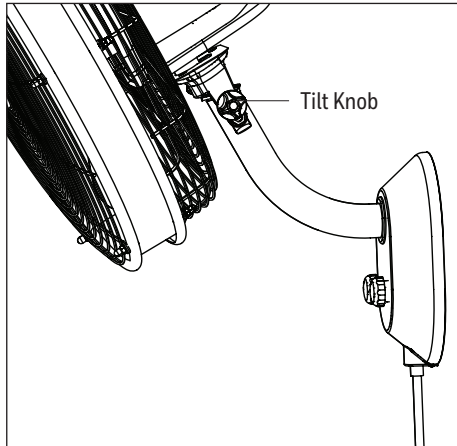

Figure 2.2
2. Use the tilt knob on side of fan to adjust airflow up or down. Loosen tilt knob by turning counterclockwise, adjust fan, and retighten tilt knob (Figure 2.2).